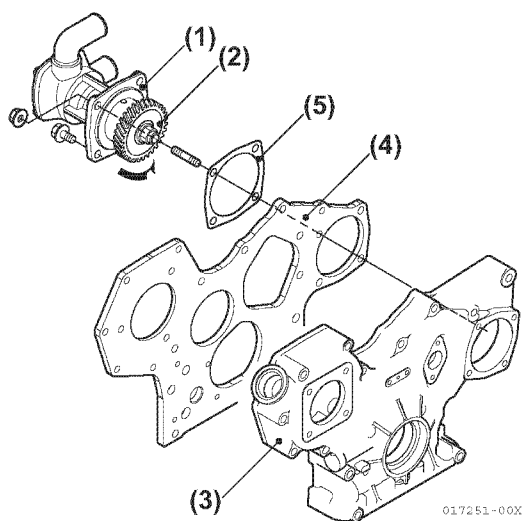
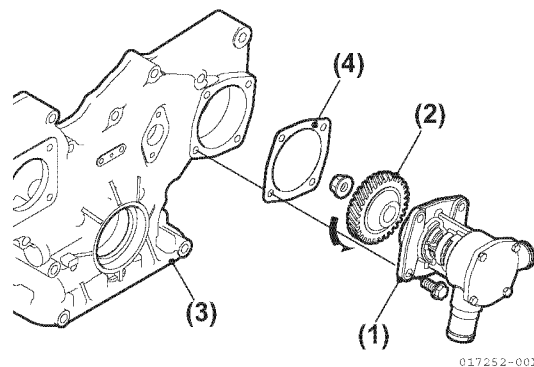

Figure 5-172
Figure 5-173
48. Install the seawater pump assembly and gasket to the gear case (Figure 5-172) and (Figure 5-173).